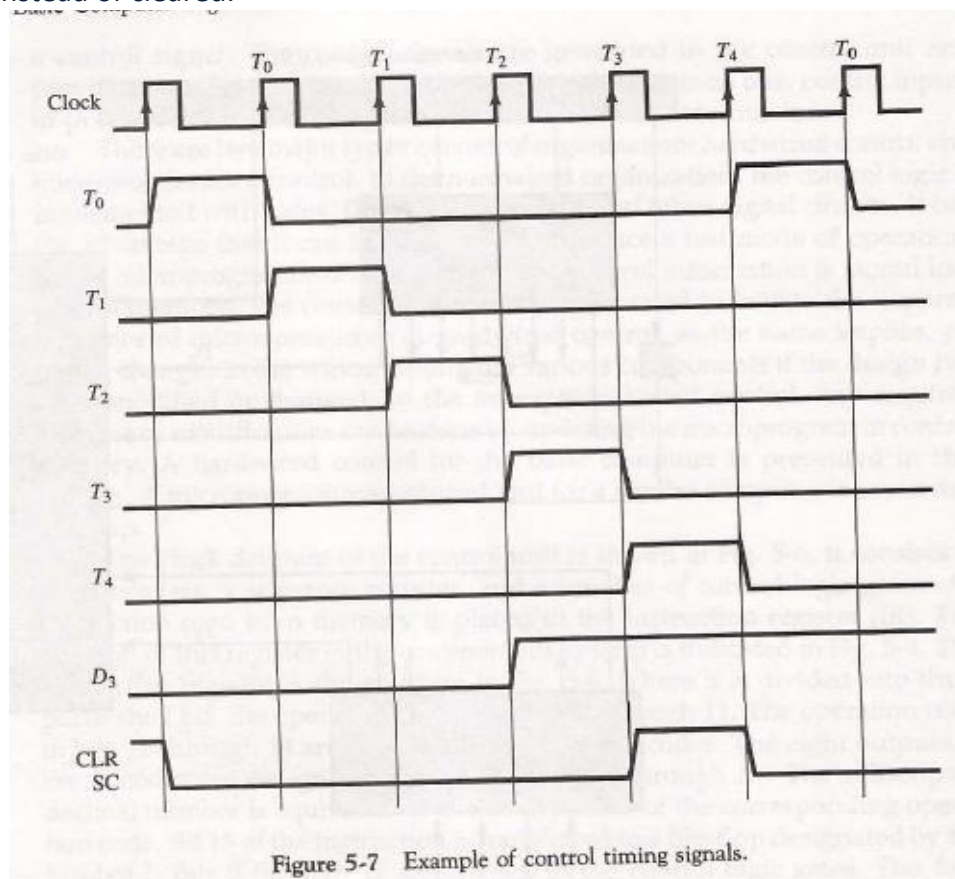

Figure 5-7 Example of control timing signals.
- The timing diagram of Fig. 5-7 shows the time relationship of the control signals.
- The last three waveforms in Fig. 5-7 show how *SC* is cleared when $D_3T_4 = 1$.